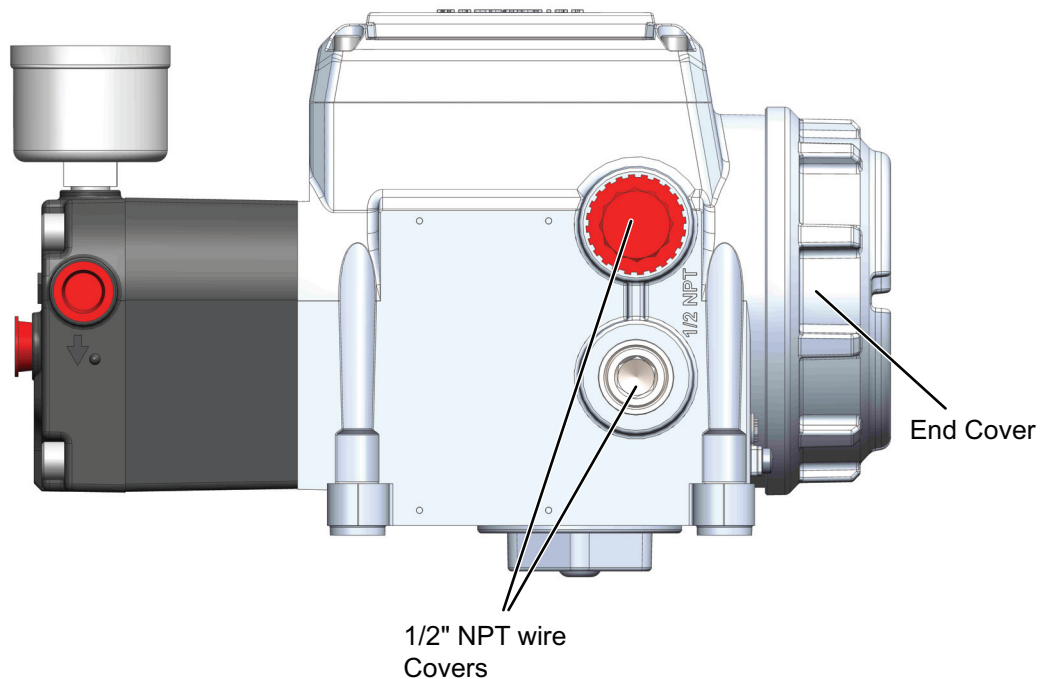

Figure 16 SVI3 Electrical Gland/Conduit Entries
2. Unscrew the end cover and remove the desired 1/2" NPT plastic cover (Figure 16).